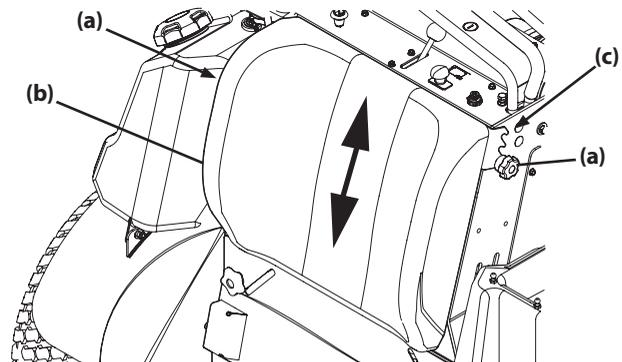

Figure 6
1. Loosen the two star knobs (a) securing the leg pad (b) to the mower (Figure 6).